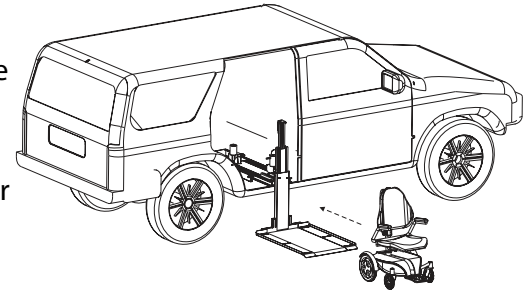

Figure 4-1
2. **Drive Chair/Scooter onto Platform.** Drive the chair or scooter onto the platform so that the heaviest portion is closest to the lifting tower (this is usually under the drive wheels, motor(s) and battery locations). Most often this method requires the chair or scooter to be loaded in reverse, and unloaded driving forward. Set your chair or scooter's speed control to slow speed to maneuver easily onto the platform. [Figure 4-1]